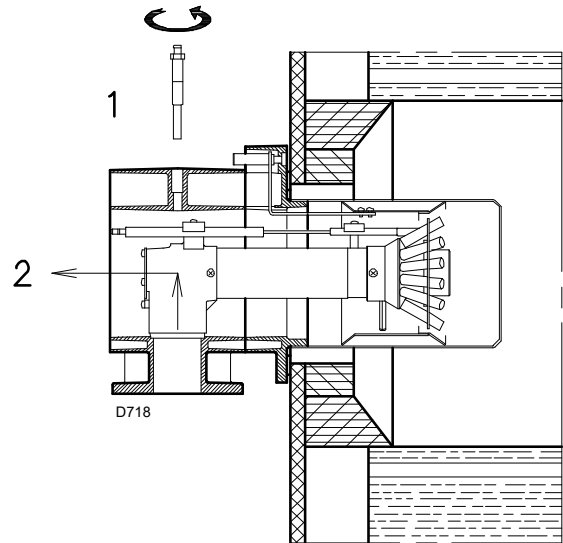

Fig. 12
In order to reach inside the combustion head (Fig. 12) proceed as follows:
- remove the screw 1)(Fig. 12);
- take out the inner part 2)(Fig. 12) of the head and then calibrate them.
At this point of the installation, the combustion head is fixed to the boiler as shown in Fig. 12.